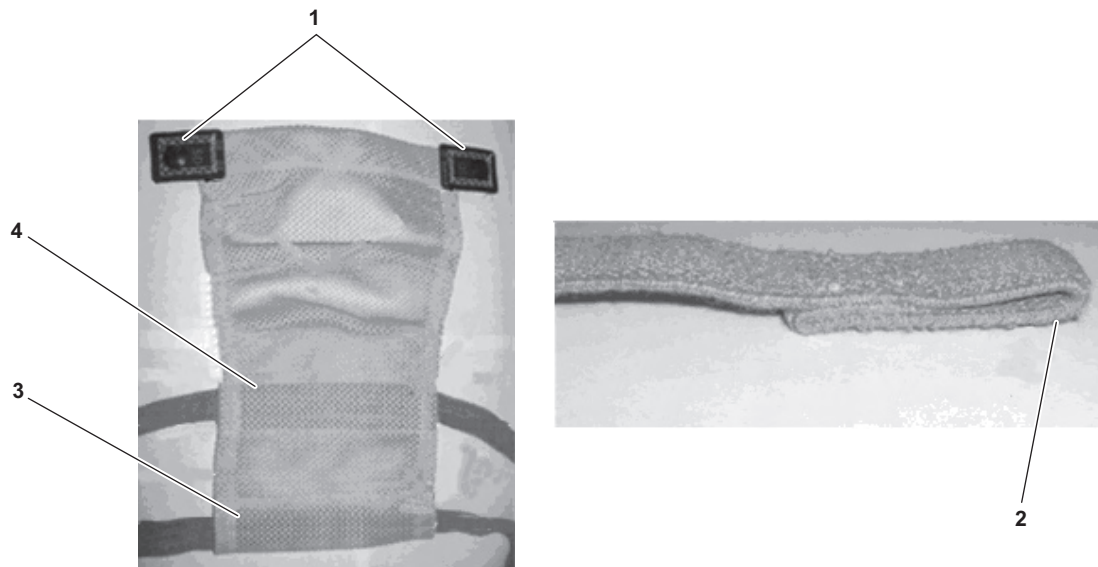

Figure 6-8. Position Head and Neck Strap
- (3) To install the temple or the neck strap within the head net, lay the head net on a flat surface with the temple snaps (figure 6-8, item 1) facing the surface.
- (4) With the folded tab (figure 6-8, item 2) of the neck strap facing the flat surface, thread the neck strap through the bottom-most pocket (figure 6-8, item 3).
When installing the temple strap to the head net, two adjustment positions are available. The lower of the two positions as shown in figure 6-8 is standard.
- (5) With the folded tab of the temple strap facing the flat surface, thread the temple strap through the lower empty pocket (figure 6-8, item 4).
- (6) Lay the head harness on the facepiece so that the temple snaps (figure 6-8, item 1) are in position over the snap receptacles.